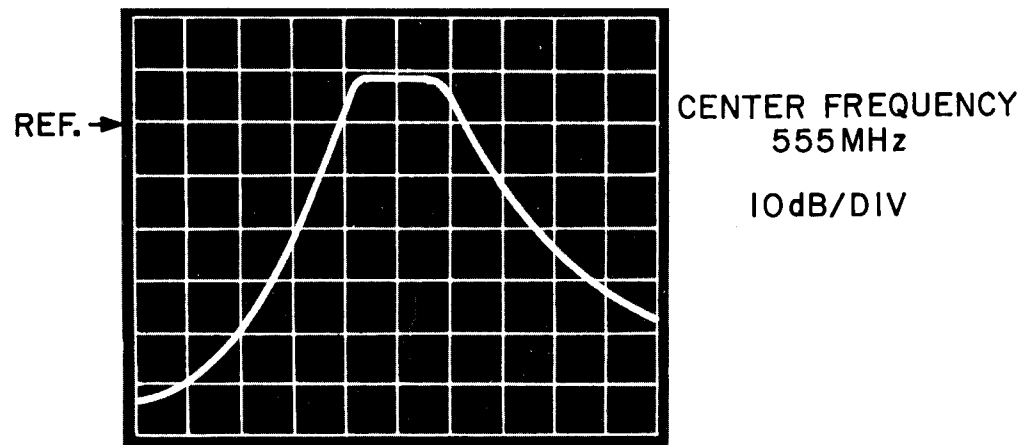

Figure 4-12. Typical Second Converter Response
- 9) Adjust A2 L3, L4 and L5 to produce a flat response, 6 MHz wide at the 1 dB bandwidth, and having 6 dB gain as illustrated in **Figure 4-12**.